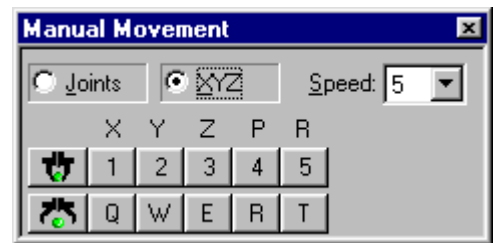

Figure 2-16
16. The project you just saved now appears in the Project tab window (Figure 2-16).